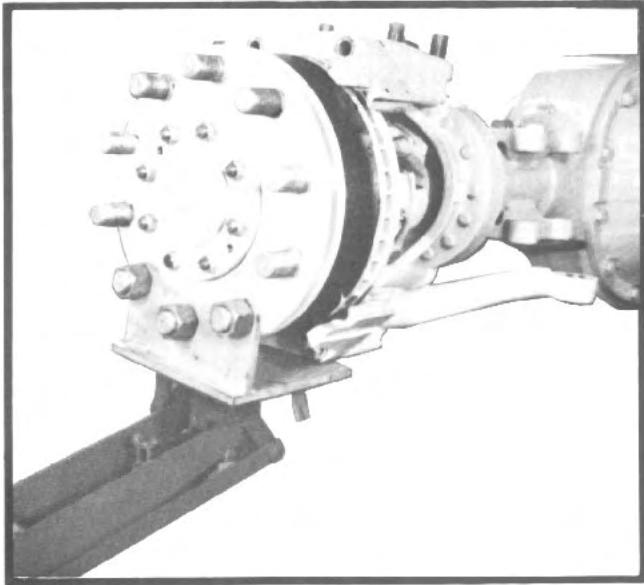

Fig. 13
5. Firmly support the outboard side of the steerable drive end with a transmission jack equipped with an adapter (See fig. 13 and Tool Reference, Section XI).